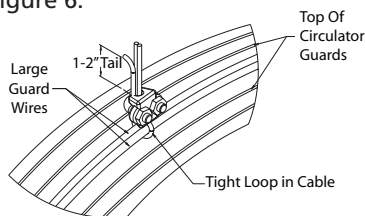

Figure 6 — Cable Clamp Detail
- Insert (4) bolts, (2) on either side of motor and tighten spin-lock nuts.
- Attach the secondary safety support cable used to give additional protection in the event of failure of other mounting hardware and brackets. To ensure proper installation of the secondary safety support cable, carefully read and follow all steps starting with Figure 6.
- Loop one end of the cable around the large diameter wires of both the front and rear guard as shown in Figure 6.